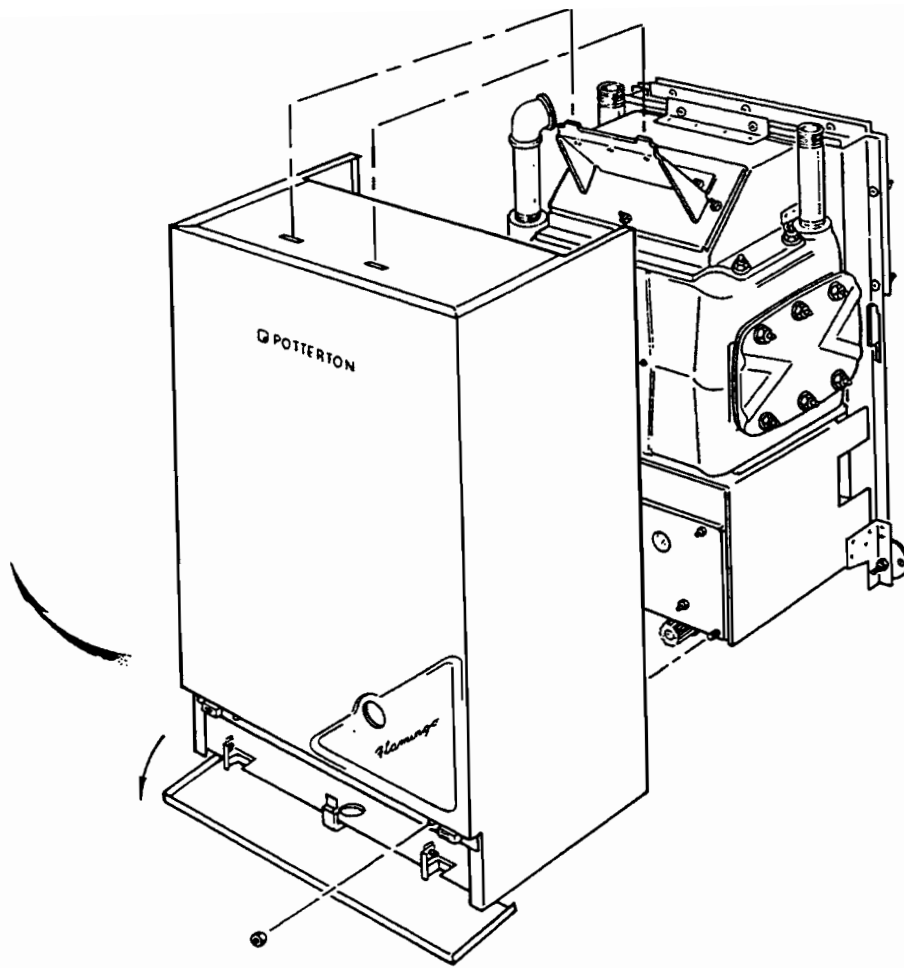

FIG. 24. FITTING BOILER CASE
Fit the boiler case by engaging the holes in the case top panel over the lugs on the support plate which is attached to the fluehood. See FIG. 24.
- A Expose the lower case securing nuts by lowering the door in the front of casing. Remove the two securing nuts. See FIG. 24. Remove case by lifting it from the locating lugs at the top of the boiler.